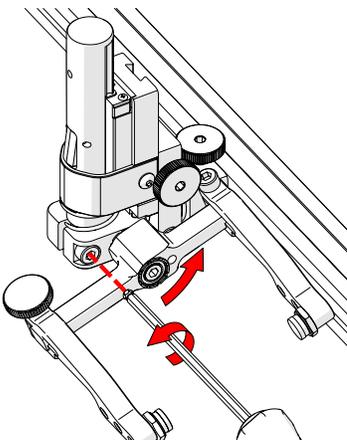

Fig. 133 - Loosen 3 mm screw
2. Using the supplied 3 mm hex driver loosen the transverse adjustment screw (*Fig. 133*) and rotate the yoke about the vertical shaft achieving the desired angle.